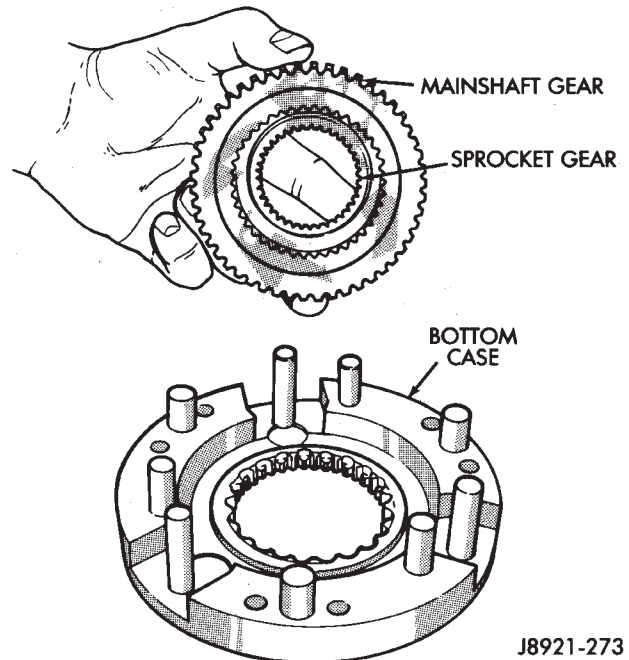

Fig. 41 Removing Mainshaft And Sprocket Gears
(52) Remove mainshaft and sprocket gears from bottom case (Fig. 41). Note gear position for reference before separating them.